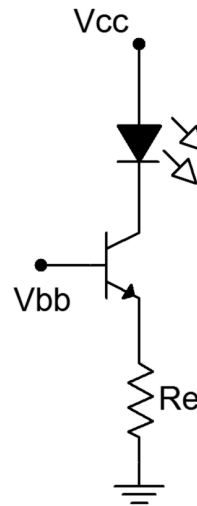

Figure 3
7. Consider the non-saturating current source of Figure 3 using $V_{cc} = 10$ volts, $V_{bb} = 5$ volts and $R_e = 470 \text{ }\Omega$. Using a typical beta of 150, calculate the base and collector currents, and the collector-emitter voltage and record them in the first row of Table 3 (theory).
8. Build the non-saturating current source of Figure 3 using $V_{cc} = 10$ volts, $V_{bb} = 5$ volts and $R_e = 470 \text{ }\Omega$. Measure and record the base and collector currents, and record the collector-emitter voltage in the first row of Table 3 (experimental). Also compute and record the deviations between theory and experimental results.
12. As seen in steps 7 through 11, the LED current of Figure 3 is a function of the base supply and the emitter resistor. Determine a new value for the emitter resistance that will yield an LED current of 15 mA. Record this value in Table 4. Obtain a new resistor close in value to the calculated result and swap it into the circuit. Measure the resulting LED current and record in Table 4.
14. Simulate the circuit of Figure 3 and record the currents and voltage in Table 6.
3. The circuit of Figure 3 is stated to be a non-saturating current source. How do the data of Table 3 confirm this statement?